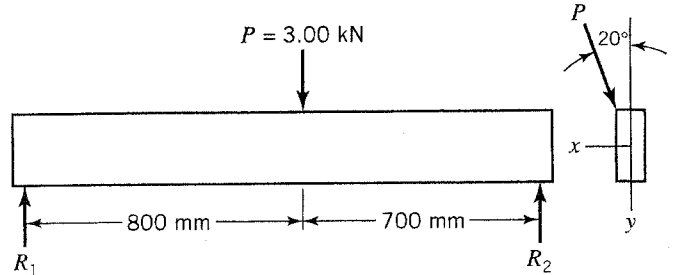

FIGURE P7.33
7.33. The beam shown in Figure P7.33 has a cross section of depth 60 mm and width 30 mm. The load P and reactions R_1 and R_2 all lie in a plane that forms an angle of 20° counter-clockwise from the y axis. Determine the point in the beam at which the maximum tensile flexural stress acts and the magnitude of that stress.